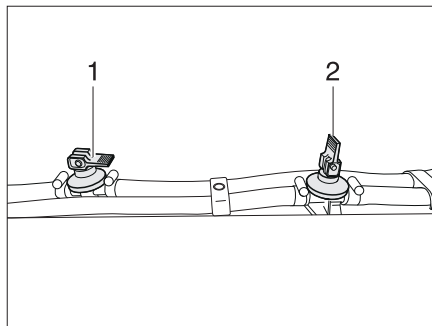

Fig. 342 Drain cock
- Close all drain cocks. Position the rocking lever (Fig. 342,1) horizontally.